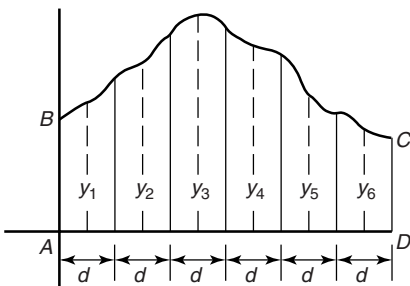

Figure 14.3
To determine the area $ABCD$ of Figure 14.3 using the mid-ordinate rule:
- (ii) Erect ordinates in the middle of each interval (shown by broken lines in Figure 14.3)